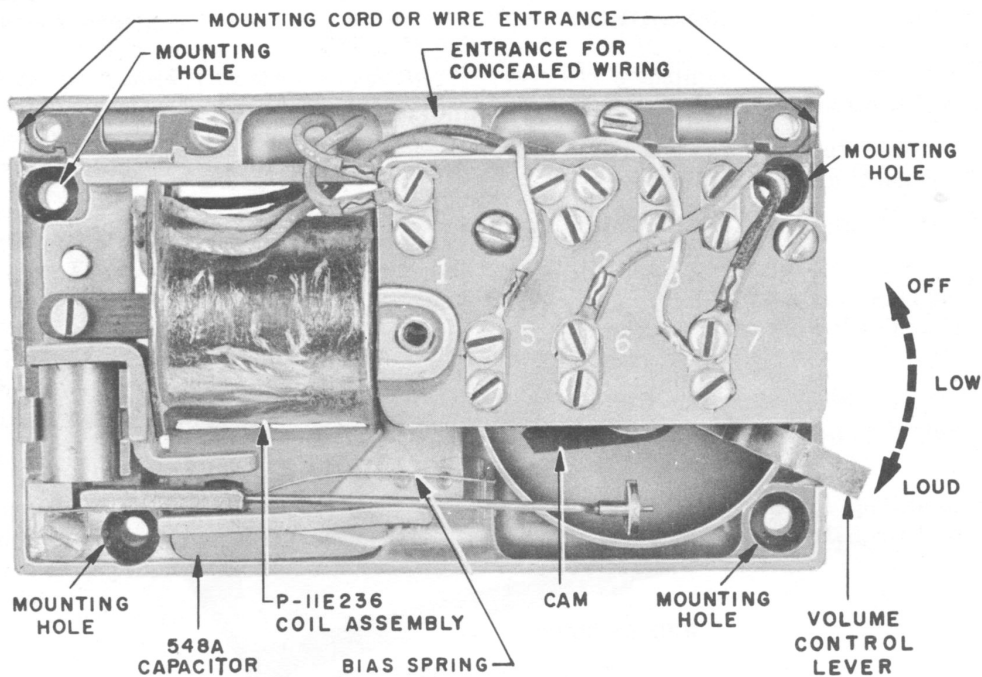

Fig. 2 — E1A Ringer, Cover Removed
4.01 Using the mounting holes provided (Fig. 2), fasten the ringer to the wall with fasteners of sufficient length to hold it securely.